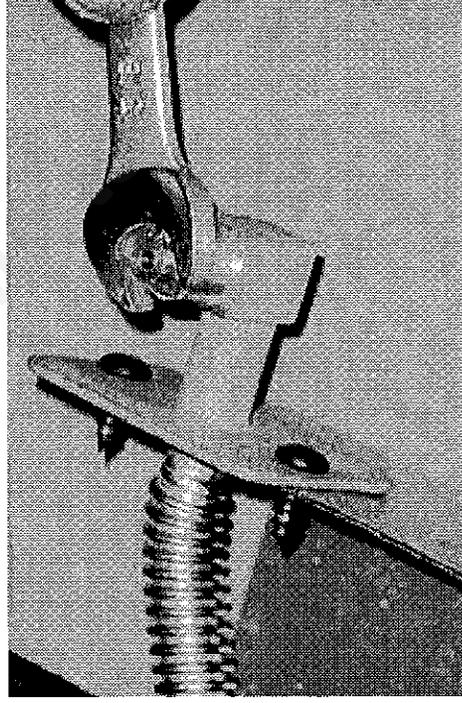

Figure 5.5 Orifice, GB Series
- Using a 3/8 in. wrench, loosen and remove the existing orifice and discard. See Figure 5.5. Replace it with the appropriate propane orifice, and tighten. Return the valve assembly to the original position.